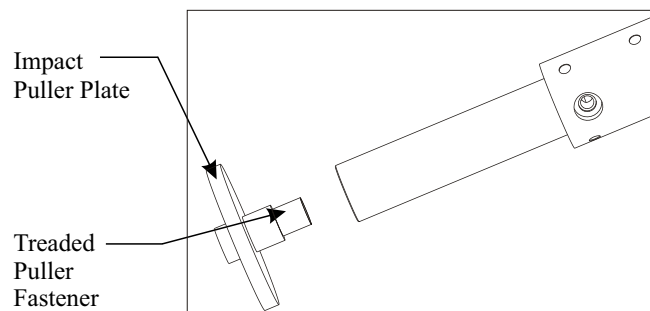

Figure 8: Impact puller to be tighten upon Shaft for hitting out of Air shaft.
- 4 Next step is to remove Air End Journal. End journal is fitted in the shaft in tight fit tolerance. Therefore, one has to hit it out of the shaft. For this reason, air shafts are provided with threaded holes at the end, generally 1/2" BSP, 1" BSP. The other sizes may be 12mm and 10mm. As shown in the figure 8, one should tighten the impact puller for hitting out the end journal (Even, one plate with appropriate hole would be good enough.) Impact puller is a dish or metal plate where one can hit hammer and apply enough force to remove the journal.